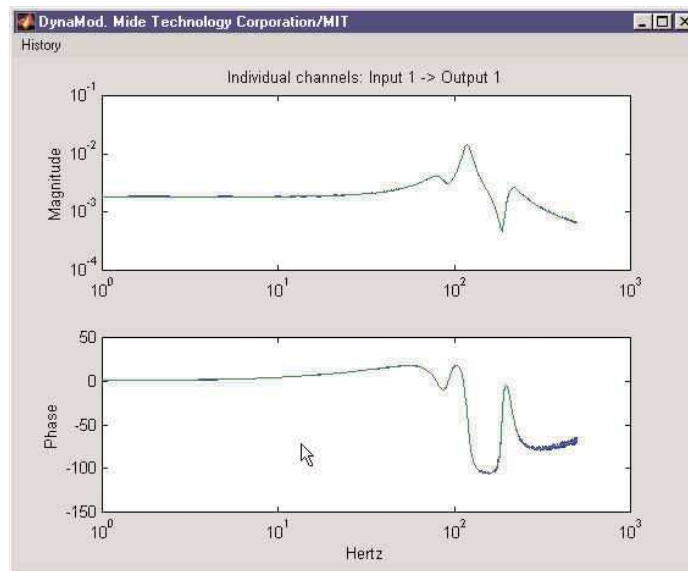

Figure 5. Plot window with the options 'Show individual channels' and 'Toggle phase' selected.
4. Plot window (Figure 5): displays the data and current model. If the 'Show individual channels' option is chosen, the display cycles from across the transfer functions by output. The current input and output are shown at the top of the window. The 'Continue' key cycles to the next channel. The 'Stop' button exits the plotting routine. If the plot option 'Display singular values' is chosen, the plot window shows a single plot of the model and data singular values, and the 'Continue' and 'Stop' buttons are not shown.